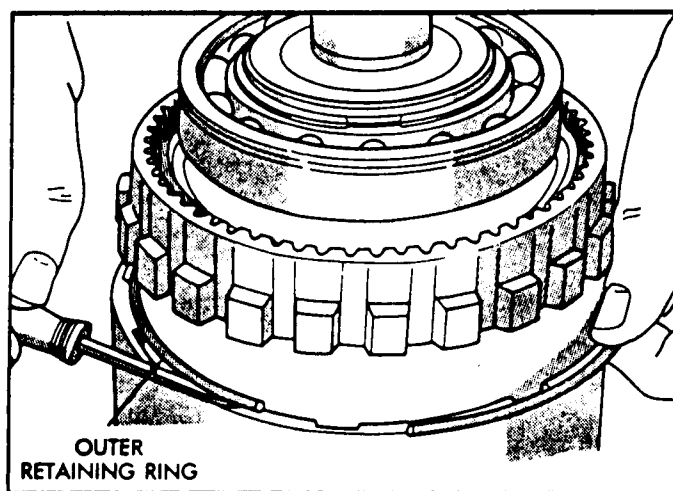

Figure 4
6. Align and install annulus gear in the direct drum, and install the outer snap ring, as shown in Figure 4.